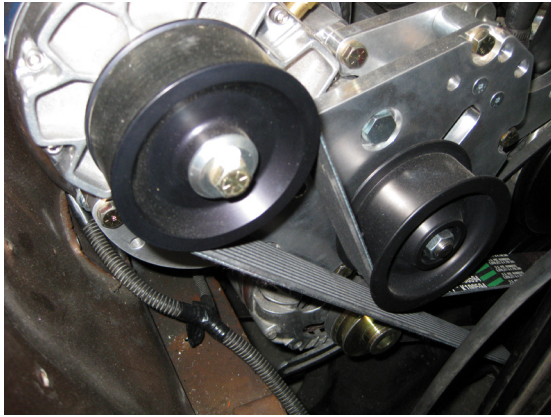

Fig. 6.3-a
- D. Once adequate tension is applied lock the tensioner in place by finally tightening the jam nut on the tensioner arbor previously left loose for adjustment purposes. (See Fig. 6.3-a.)